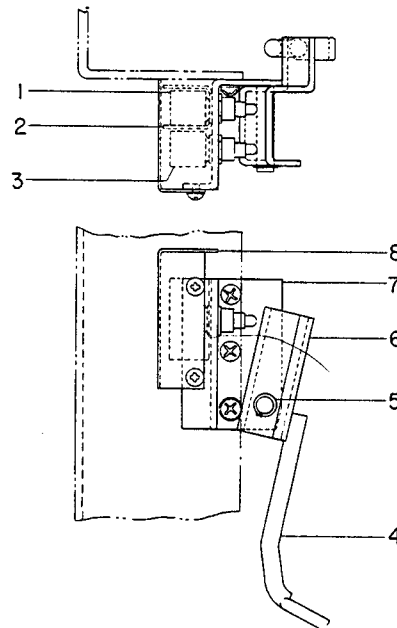

Fig. 21 (242C599) Motor cut-off switch
**CUT-OFF SWITCHES (Fig. 21)**